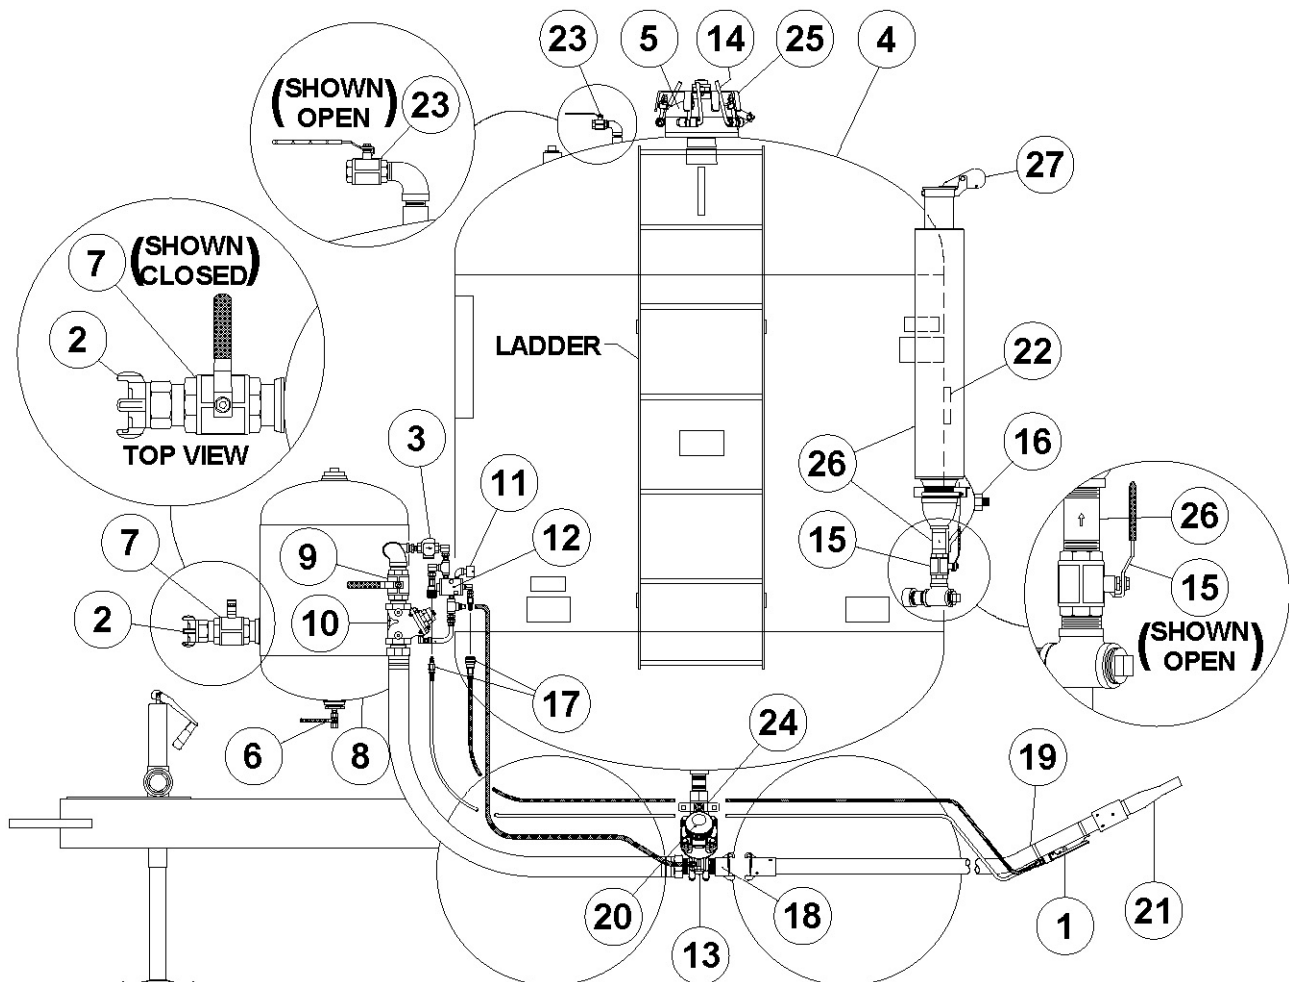

Figure 6.2 – Typical Bulk Abrasive Blaster
6.1 Bulk Abrasive Blaster Setup Procedure (see Figure 6.2)
- 6.1.4. Do Not operate this equipment without the pressure indication ball valve (#23) in place. This is an added feature that allows the operator to verify that the bulk abrasive blaster is completely depressurized before attempting to open the closure. See Figure 6.2.
- 6.2.1. Close the air inlet ball valve (#7). The ball valve is closed when the handle is fully turned to the position shown in Figure 6.2 (handle perpendicular to body). The handle tab will bottom against the ball valve body in the closed position.
6.3 Closure Opening Procedure (See Figure 6.2 and 6.3)
- 6.3.1. Taking the proper fall protection measures, access the closure (#5) using the bulk abrasive blaster ladder. See Figure 6.2.
- 6.3.2. The bulk abrasive blaster **MUST** be completely depressurized before attempting to open the closure (See Section 6.2). Verify that the abrasive blaster is completely depressurized by opening the pressure indication ball valve (#23) next to the closure (see Figure 6.2). If any air leakage occurs, **DO NOT CONTINUE**. Follow the depressurizing procedure in Section 6.2. **DO NOT** depressurize the bulk abrasive blaster through the pressure indication ball valve (#23).